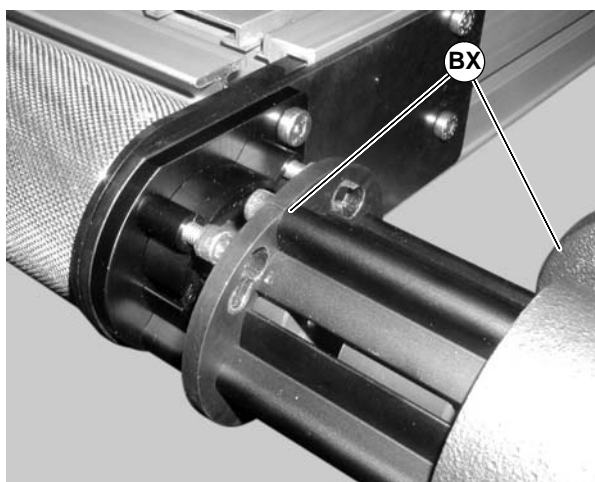

Figure 55
- 3) Rotate and remove the gear motor and guard assembly (BX of Figure 55).